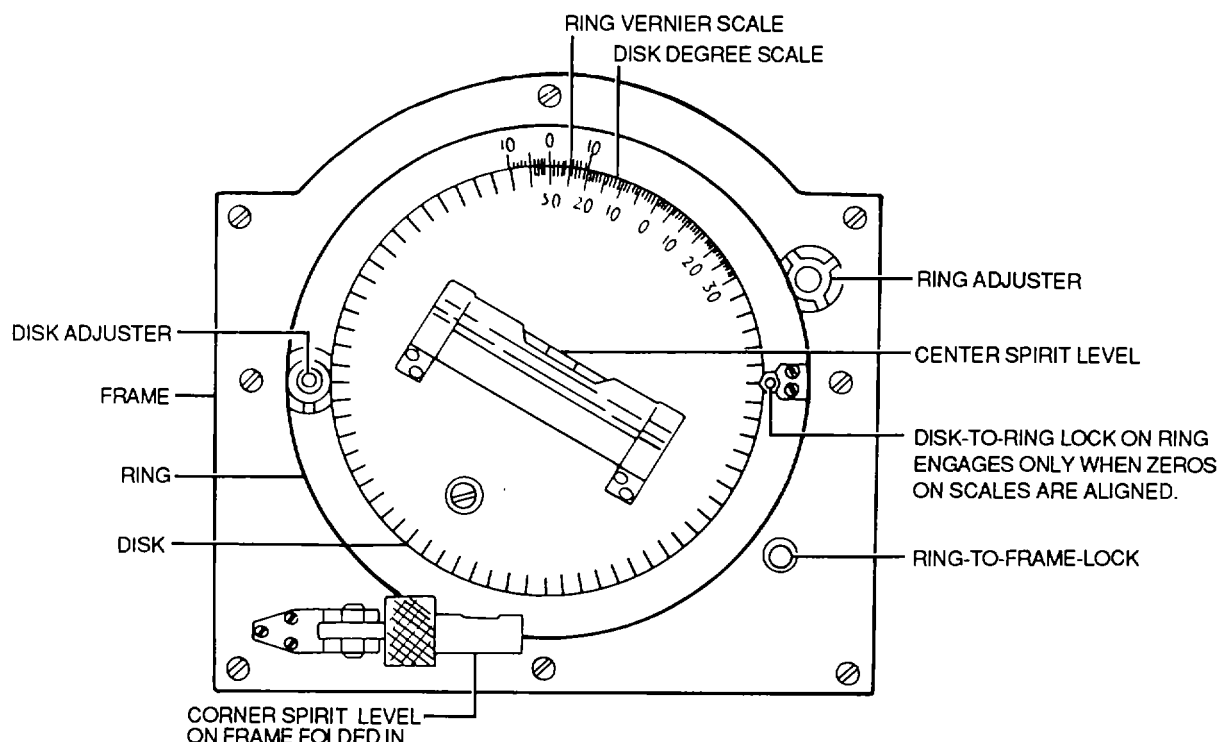

Figure 7-1. Protractor
a. Description. The protractor, shown in figure 7-1, consists of an aluminum frame in which a steel ring and a disk are mounted. Spirit levels are mounted on both the frame and disk. Locks are provided for locking the ring to the frame or the disk. Scales are marked on the disk and the ring. Zeros of the scales provide reference marks between which the angle may be read. Hand adjusting screws are provided so that the ring and the disk may be rotated in relation to the housing and to each other. Functioning parts of the protractor are described in the following paragraphs.